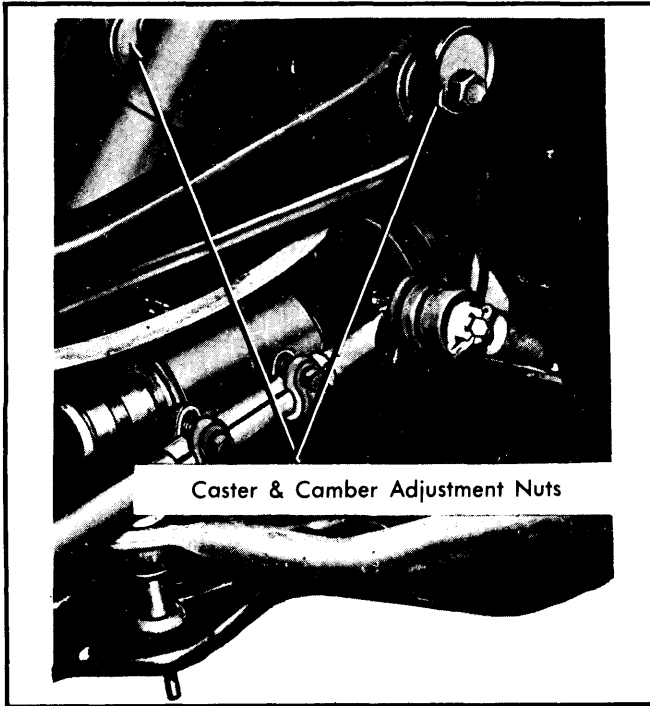

Fig. 14 Eldorado Caster & Camber Cam Locations
4) Rotate rear cam bolt until camber setting returns to 0°. Tighten cam nuts to 95 ft. lbs. and recheck adjustments. See Fig. 14.